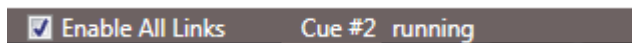

Figure 332
4. The **Status Bar** text in the bottom left corner of the Spikemark screen displays which cue is running (Figure 332).